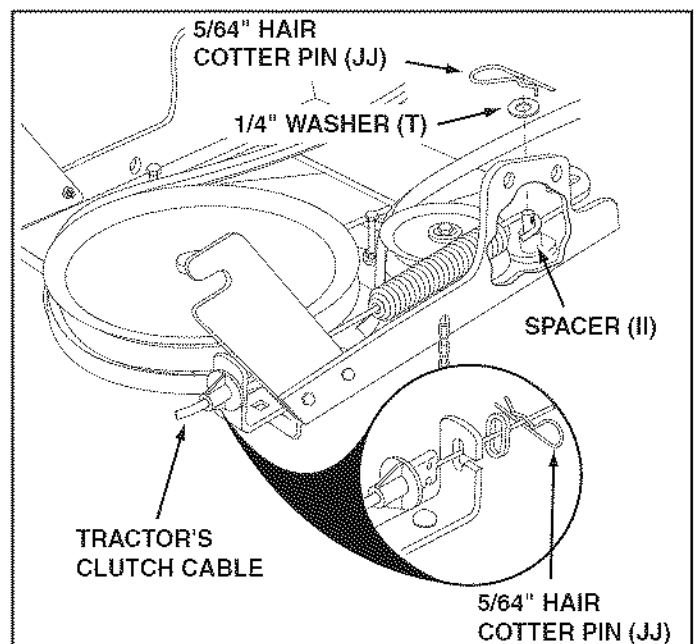

FIGURE 38
STEP 38: (SEE FIGURE 38)
- Attach the tractor's clutch cable to the cable bracket. Secure the cable housing guide (groove down) to the cable bracket using the original collar and a 5/64" hair cotter pin (JJ).
- Place a spacer (II) on the welded pin on the idler arm. Hook the end of the clutch spring over the pin and secure it with a 1/4" washer (T) and a 5/64" hair cotter pin (JJ).